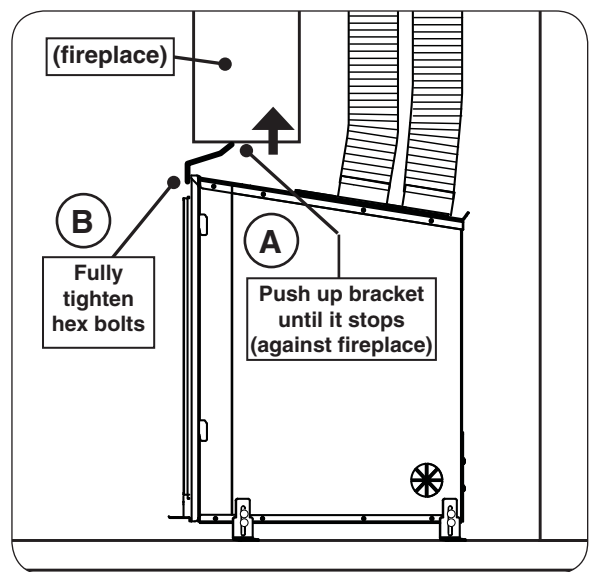

Fig. 30-2 Fasten retention bracket (if applicable)
1. Reach in and push up the loosely installed retention bracket until it stops (against fireplace), then use a $\frac{7}{16}$ " open-end wrench to fully tighten the two hex bolts (from below fascia). See Fig. 30-2.